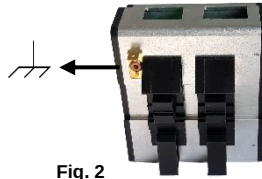

Fig. 2
- It is mandatory the external grounding backside of EXD-U02 (Fig. 2).